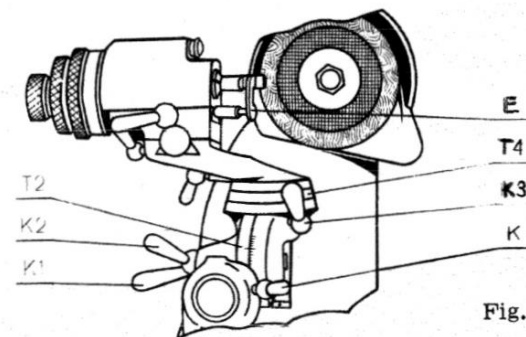

Fig. 6
3. Set cutter with aligning gauge E, clamp cutter in position, return aligning gauge E. (see Fig.6).